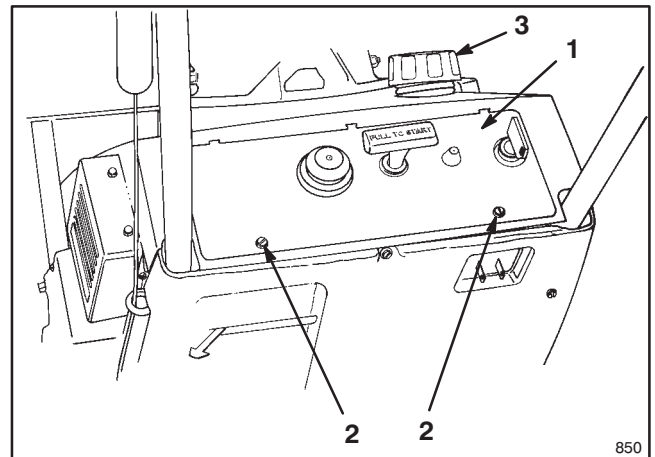

Figure 3
3. Remove (2) two screws from control panel (Fig. 3) and allow panel to hang from recoil rope.
1. Control panel 2. Capscrew (2) 3. Gas cap
4. Remove gas cap (Fig. 3) and save.